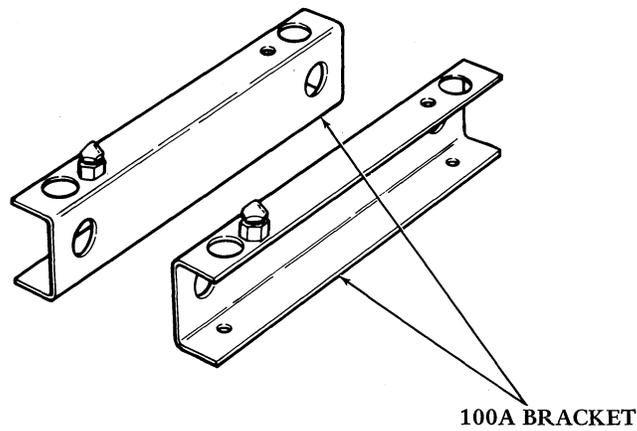

Figure 5 - Mounting Brackets
3.13 The 1A data station is contained in a 31A2 data mounting and is mounted into a 33 or 35 teletypewriter with brackets 100A and 101A respectively (Figure 5). The mounting brackets each contain hardware and a fixed mounting stud that is part of the bracket. For additional information concerning the 1A data station, refer to Section 591-813-201.